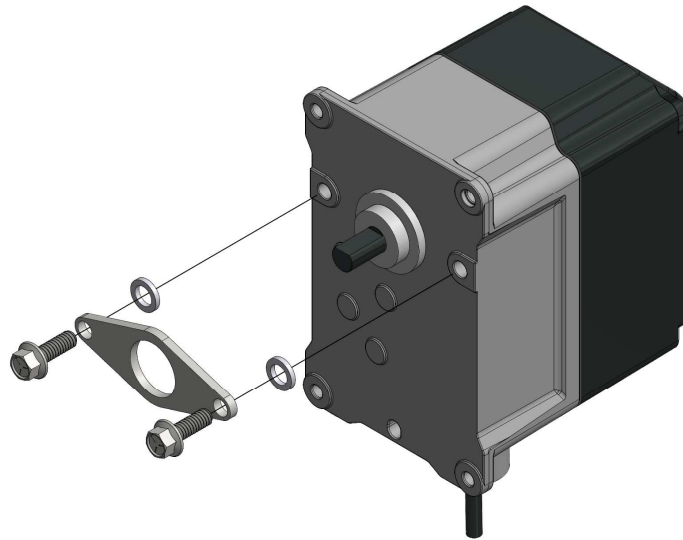

Figure 3: Seal Retainer Installation
2. Place a #14 x 3/4" thread-forming screw through each hole in the seal retainer. Slide a #14 spacer over the end of each #14 x 3/4" thread-forming screw. Slide the current assembly over the actuator shaft so that each #14 x 3/4" thread-forming screw lines up with one of the two holes in the bottom of the actuator as shown in Figure 3. The seal retainer should slide over the shoulder on the shaft seal. Using a 3/8" nut driver (or socket), tighten the two #14 x 3/4" thread-forming screws until the #14 spacers are captured between the seal retainer and the bottom of the actuator. **Do not overtighten the #14 x 3/4" thread-forming screws.**